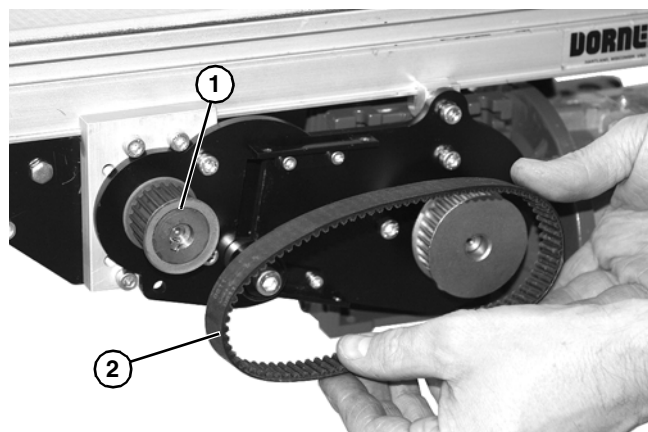

Figure 17
3. Loosen driven pulley set screws and remove driven pulley (Figure 17, item 1) and timing belt (Figure 17, item 2).